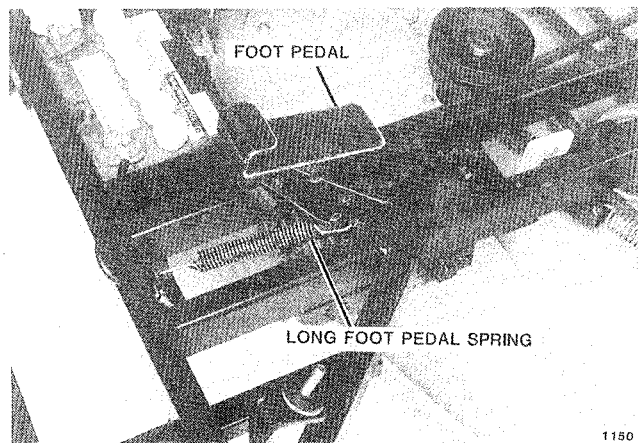
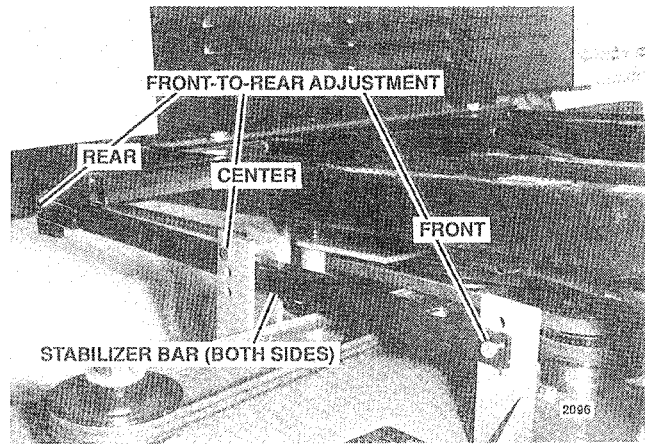

FIG. 5. Long Foot Pedal Spring
FIG. 11. Front-To-Back Level Adjustment
Push foot pedal all the way forward and remove long foot pedal spring from foot pedal lever arm (Fig. 5).
3. Mower level front-to-rear is adjusted by changing stabilizer bar positions (Fig. 11). Always adjust each side evenly. Adjust at front and middle of stabilizer bar by removing hairpin cotter and clevis pins and raising or lowering stabilizer bar positions.
To change cutting height setting, remove foot platform, raise mower and disconnect long spring on foot pedal lever arm (Fig. 5). Remove mower drive belt and lower mower all the way down. Remove center clevis pins (Fig. 11). Position front clevis pins in holes to match desired height setting. Reinstall middle clevis pins in holes to match desired height setting. Reinstall foot pedal spring. Reinstall mower drive belt and foot platform.
3. Push foot pedal forward and remove long spring from foot pedal lever arm (Fig. 5) - save parts.